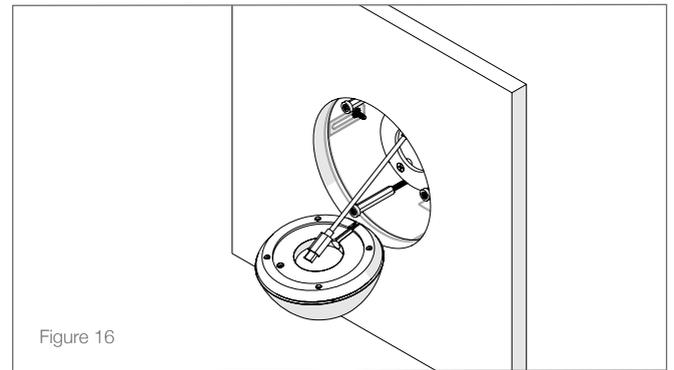

Figure 16
1. Remove the Fascia and connect the Josh Micro device to the POE connector (see Figure 16).